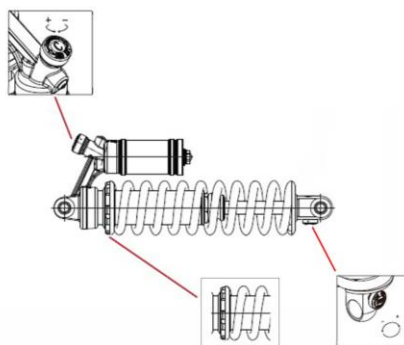

Fig 8
6.2.2 Tune rear shock absorber (see Fig 8)